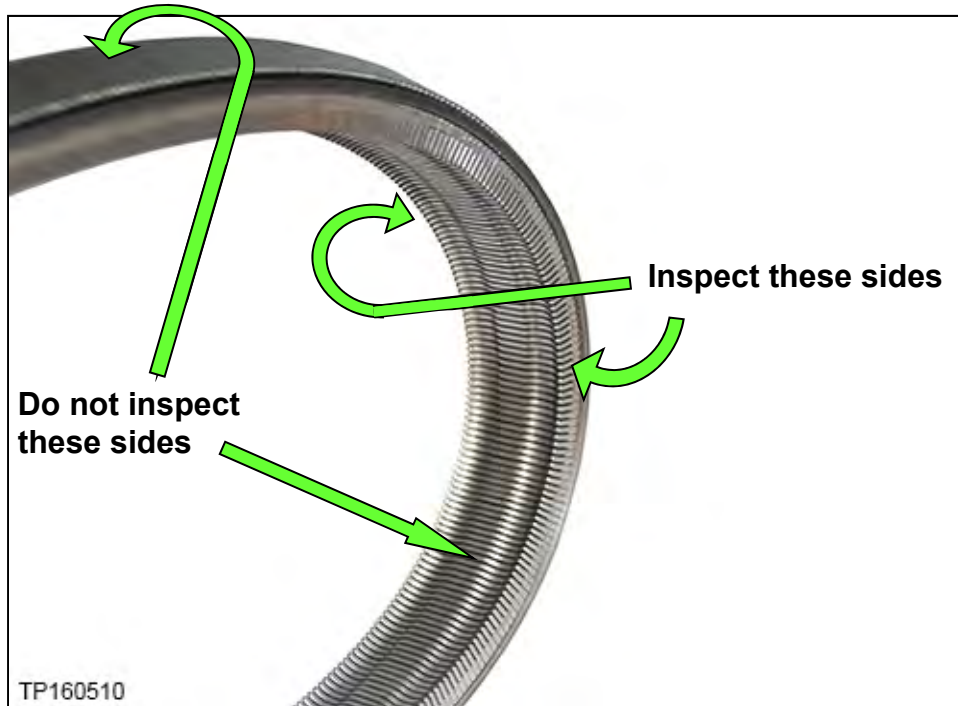

Figure 8
6. Using borescope J-51951 with its mirror attachment, inspect the entirety of the two sides of the belt that come in contact with the pulleys (see page 7 Figure 8).